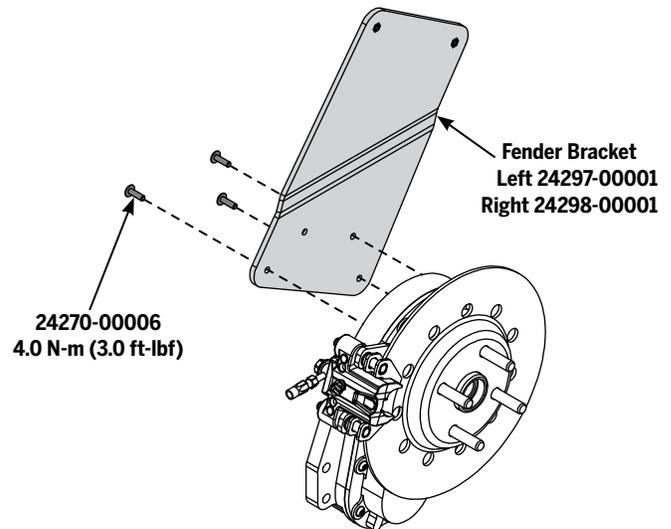

Figure 126: Fender Bracket
- b. Using a 4 mm hex wrench, remove the three fasteners on the Fender Bracket. Set the Fender Bracket aside. See **Figure 126**.
7. Using a 4 mm hex wrench, install the Fender Bracket. See **Figure 126**. Torque to **4.0 N-m (3.0 ft-lbf)**.